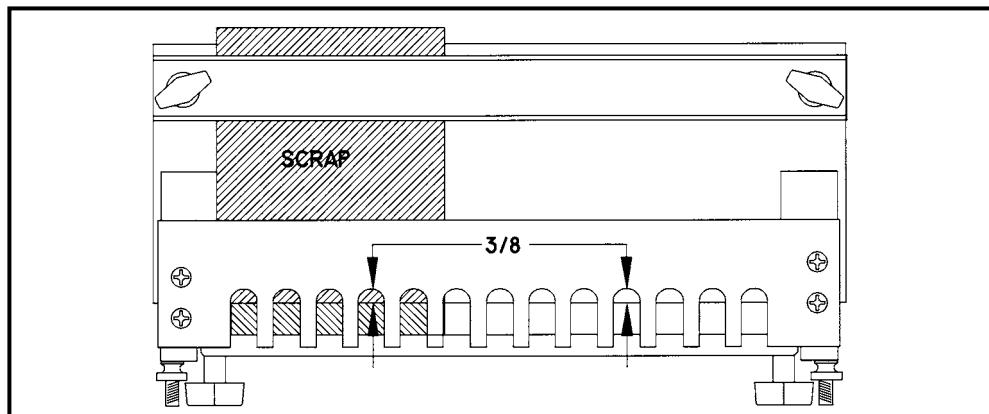

Fig. 19
3. Place the box joint templet on top of the scrap material and adjust so there is about  $3/8"$  (Fig. 19) from back of templet slot to edge of scrap material at both ends of templet.